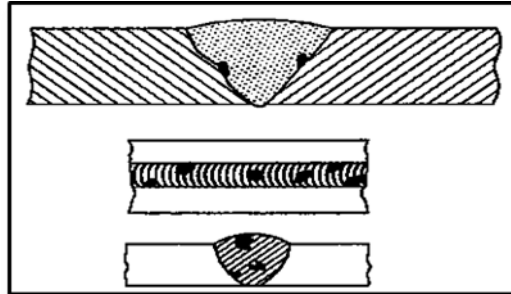

FIGURE 8.1.1
8.1 Identify the weld defects in FIGURES 8.1.1 and 8.1.2 below.